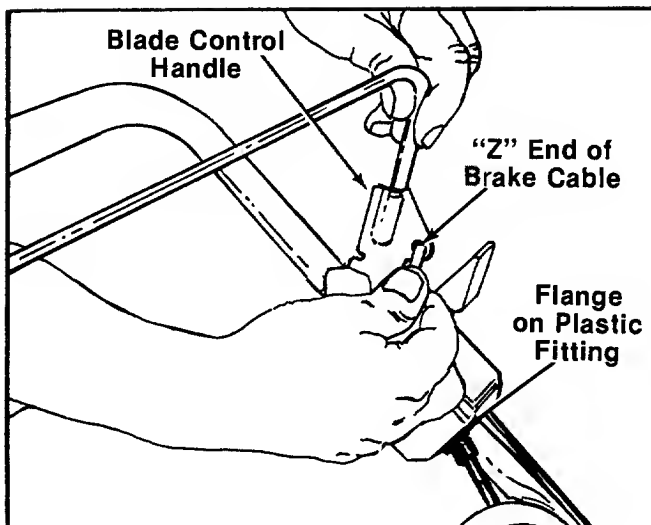

FIGURE 6.
9. Snap the plastic fitting on the end of the cable into the control housing. Hook the "Z" end of the brake cable into the hole in the blade control handle. See figure 6. If additional slack is needed in order to hook the cable into the handle, proceed as follows.